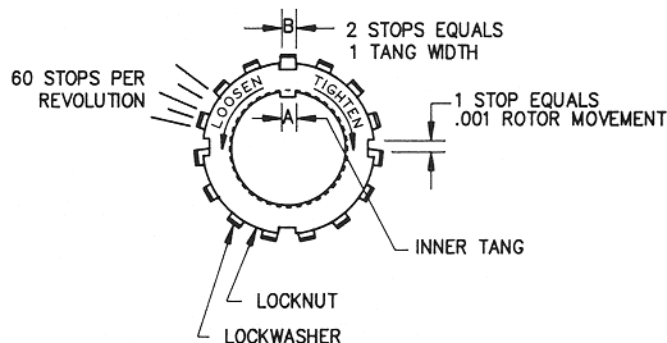

Fig. 6 — Locknut Assembly
It is very important that the bearing locknuts and lockwashers are installed properly. Overtightening locknuts will cause bearing failure and/or a broken lockwasher inner tang "A" (see Fig. 6). Loose locknuts will allow the rotor to shift against the discs, causing wear.
1. Install the lockwashers with the tangs facing outward, and the locknuts with the tapered face inward. Be sure the inner tang "A" (see Fig. 6) does not slip out of the tang slot. Bend the tang toward the slot if necessary.
5. Back off the nut the width of one lockwasher tang "B" (see Fig. 6) or two stops. Secure the locknut by bending the closest aligned lockwasher tang into the locknut slot. The pump should now turn freely when rotated by hand.
6. Tighten the other locknut by hand until it is snug against the bearing and the bearing is firmly seated in the head recess. With a spanner wrench, tighten the nut the width of one lockwasher tang "B" (see Fig. 6) or two stops. Secure the locknut by bending the aligned lockwasher tang into the groove in the locknut. The pump should continue to turn as freely as before adjustment.